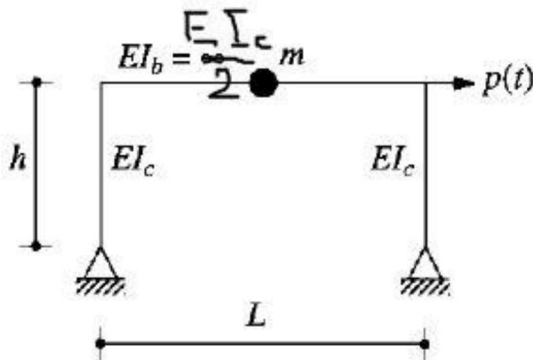

Figure-2
2. Write the equation motion of the one storey, one bay frame as shown in figure-2.